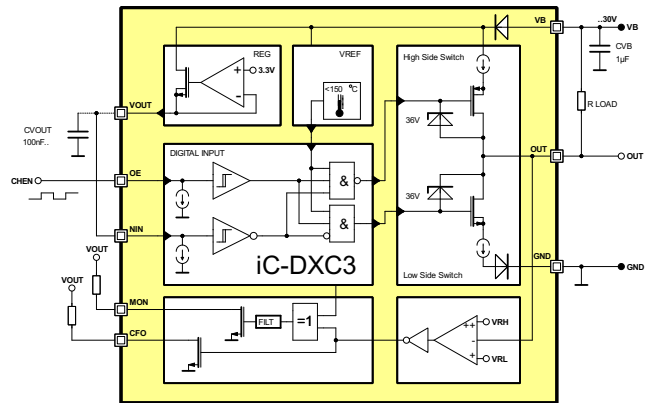
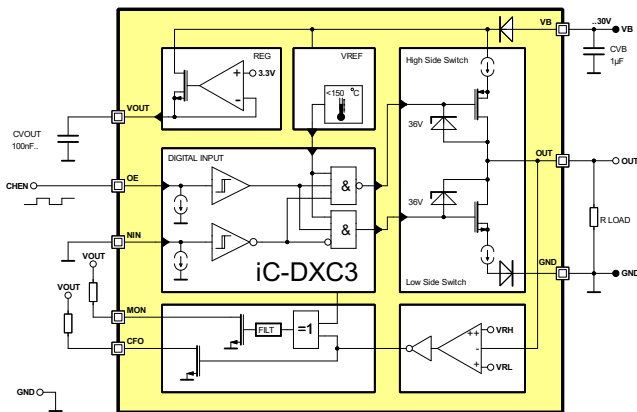
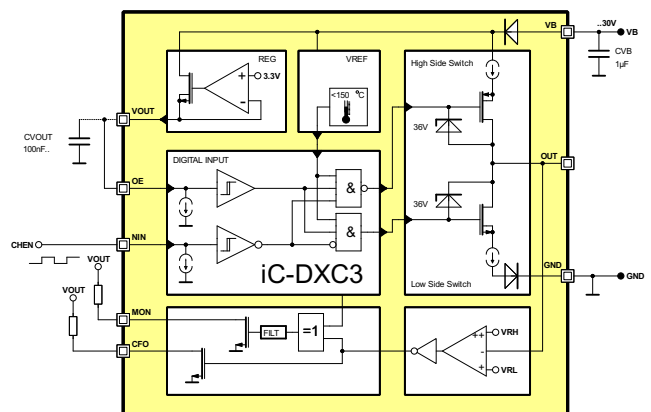

Figure 5: Configuration as Low-Side (NPN-Switch)
Figure 4: Configuration as High-Side (PNP-Switch)
Figure 6: Configuration as Pushpull
The iC-DXC3 can be operated in high-side (PNP), low-side (NPN) and push-pull (PP) switch mode. Figure 4 shows the high-side operation where NIN pin must be kept low and the OE pin controls the switch. Figure 5 shows the low-side operation where NIN pin must be kept high and the OE pin controls the switch. Figure 6 shows the push-pull operation where OE pin must be kept high and the NIN pin controls the switch. If the OUT signal differs from what declared in tables 4, 5 and 6 (due to external forcing) for more than 14 μ s (cf. Electrical Characteristics No. 510), this event will be signalled by a low level at MON output. In case of a short circuit at OUT and resulting temperature shut-down, logic level of MON will be undefined.
Table 5: Output Function table Fig. 5. Low-side mode (NPN-Switch) with external pull-up.
Table 4: Output Function table Fig. 4. High-side mode (PNP-Switch) with external pull-down.
Table 6: Output Function table Fig. 6. Push-Pull mode